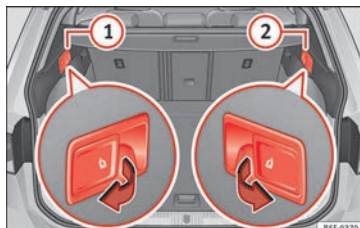

Fig. 152 In the luggage compartment: levers for remote release of the left part (1) and right part (2) of the rear seat backrest.
- Pull the remote release lever of the left part » Fig. 152 (1) or right part (2) of the backrest in the direction of the arrow. The released part of the rear seat backrest is folded automatically down and forwards.